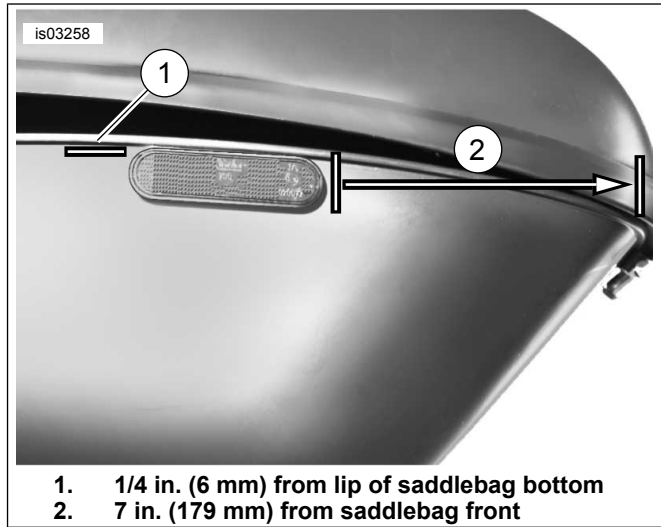

Figure 15. Install Reflector on Saddlebag
1. See Figure 15. Position reflector approximately 7 in. (179 mm) from saddlebag front and 1/4 in. (6 mm) from lip of saddlebag bottom.